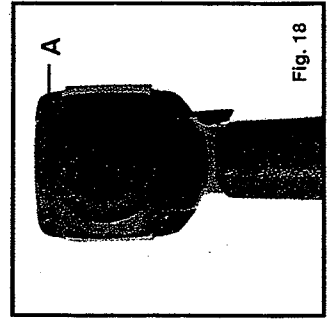

Fig. 18
5. Adjust directional exhaust deflector (A) Fig. 18, so that the exhaust air blast will be directed away from the operator. The exhaust deflector provides 8 detented positions for directing the exhaust blast away from the operator. Grasp the deflector and rotate it to the desired position for the current application.